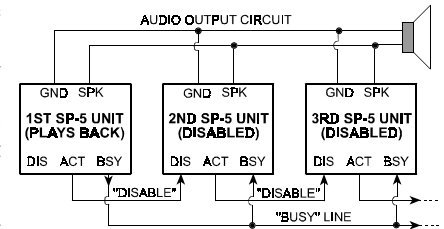

Figure 3. Multi-Unit Configuration
important role in multi-unit configurations (Fig. 3). The control terminals are:
BSY - BUSY Input/Output terminal. While an SP-5 is engaged in playback, its BSY terminal is pulled to ground by internal circuitry, to indicate that a message is being played back into the speaker. The other SP-5 units sense this indication via their own BSY terminals (Fig. 3).
In the example of Figure 3, the first SP-5 unit has higher priority than other units, because it can not be disabled (its DIS input is not connected). When it starts playing back, its ACT output goes LOW and disables the second
- B. Interconnect all BSY terminals, all GND terminals and all SPK terminals (Fig. 3).
- C. Select the SP-5 units to which you wish to assign priority. Leave the DIS terminal of this unit disconnected (Fig. 3).